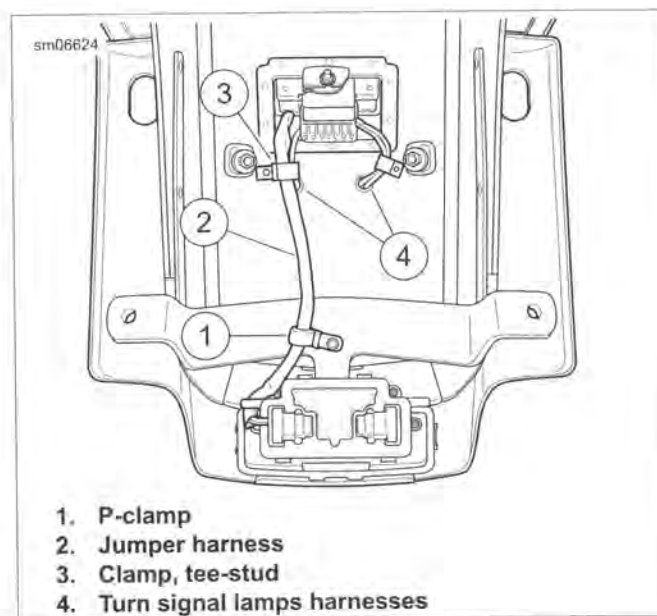

Figure 7-26. Tail Lamp Jumper Harness (models with tail lamp)
8. **Canadian Models:** See Figure 7-26.
- c. Disconnect jumper harness (2) from the rear fascia lamp and the tail lamp.
1. **Canadian Models:** See Figure 7-26.
- a. Route jumper harness (2) from tail lamp to the fascia lamp and connect to each lamp.